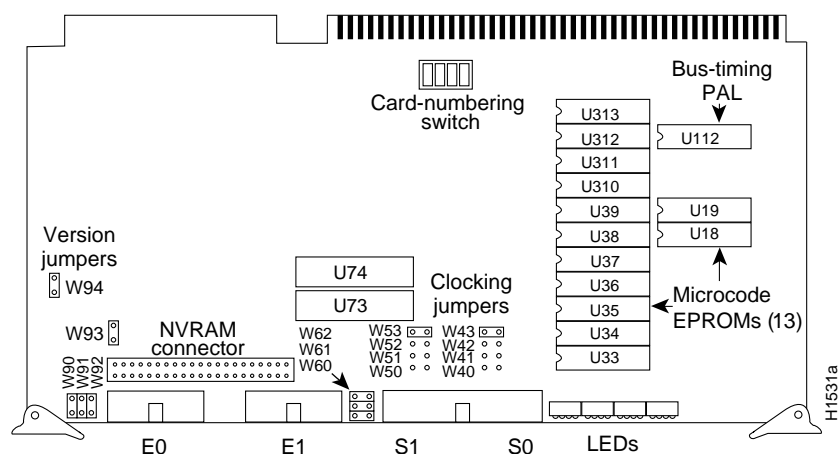

Figure 5-28 CSC-MCI Multiport Communications Interface Card—Component-Side View
- CSC-MCI multiport communications interface card, Figure 5-28